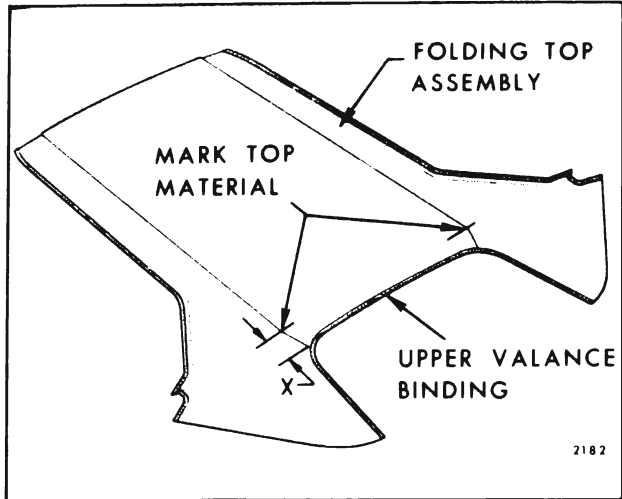

Fig. 13-22 — Marking Top Material
22. Using a pencil, mark top material (mark should be approximately 1/2" in length) at deck seam 5-1/4" on "B, C & F" and 4-1/4" on "A" Styles from edge of top material upper valance binding. (See dimension "X" in Fig. 13-22).